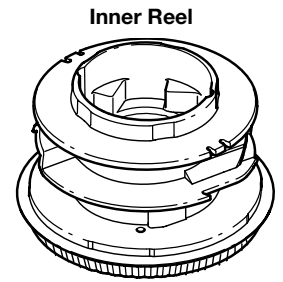

Fig. 24
- Pull the inner reel with existing line from the outer spool (Fig. 24).
- Remove any existing line from the inner reel before cleaning. Remove any debris or grass from the knob, spring, inner reel and foam seal. Wash the inner reel with warm soapy water (Fig. 24).